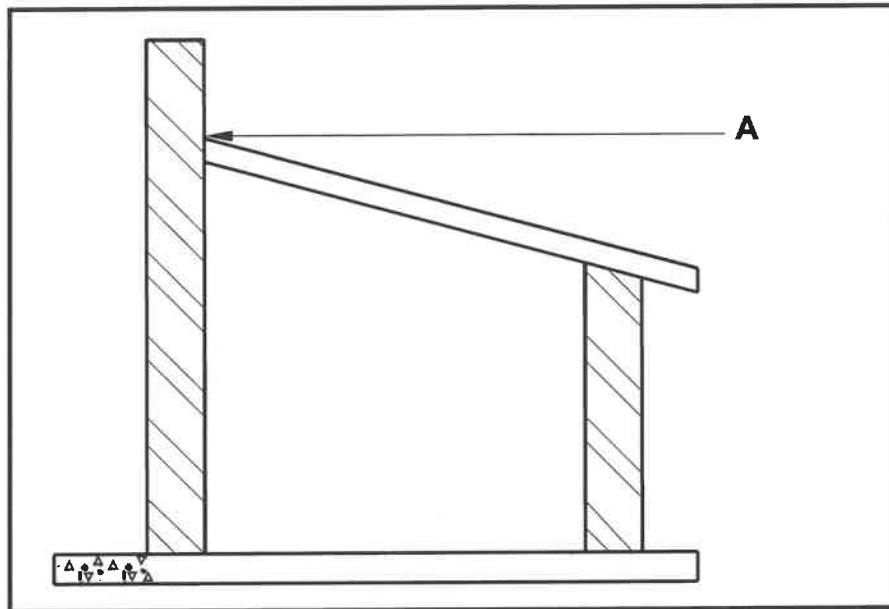

FIGURE 5.1
5.1 FIGURE 5.1 below shows a roof attached to a wall.